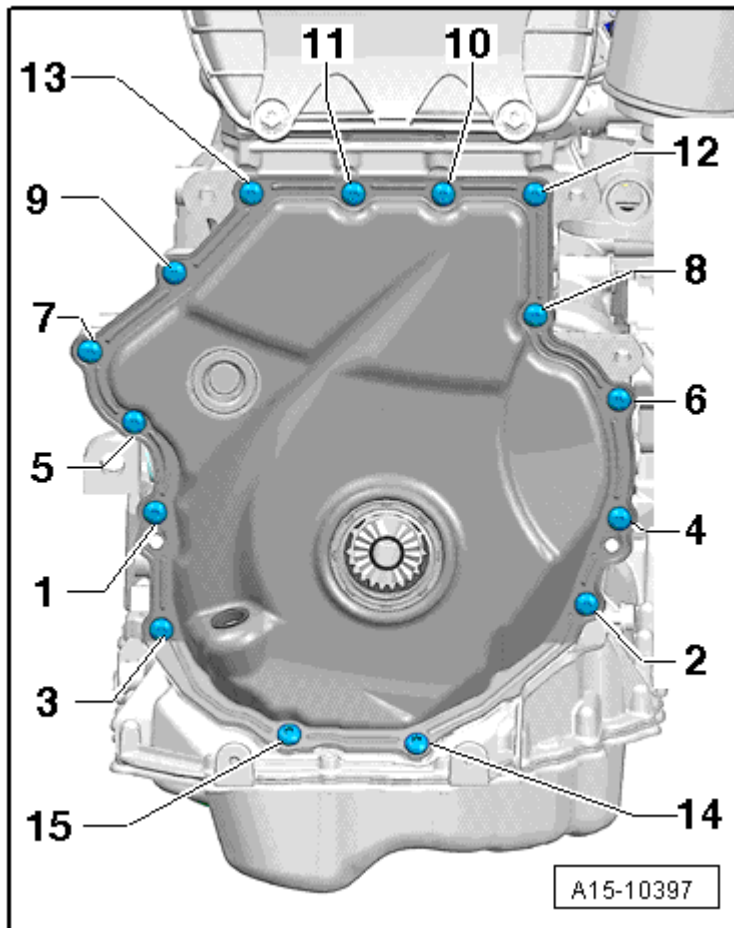

Fig. 8: Identifying Timing Chain Lower Cover Tightening Sequence
- Tightening sequence with 15 bolts, refer to **Fig. 8**.